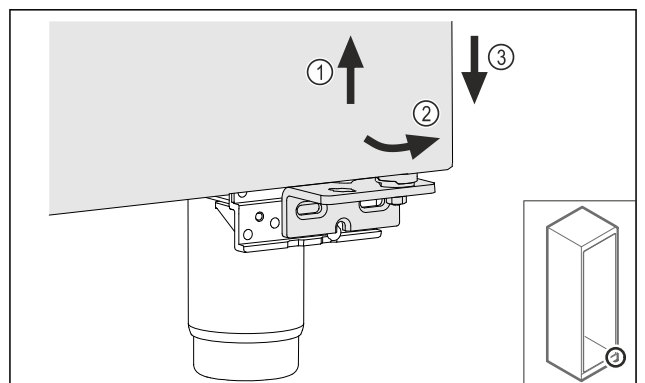

Fig. 24
- ▶ Lift the door slightly Fig. 24 (1), tilt it forwards at the bottom Fig. 24 (2) and lower it Fig. 24 (3).